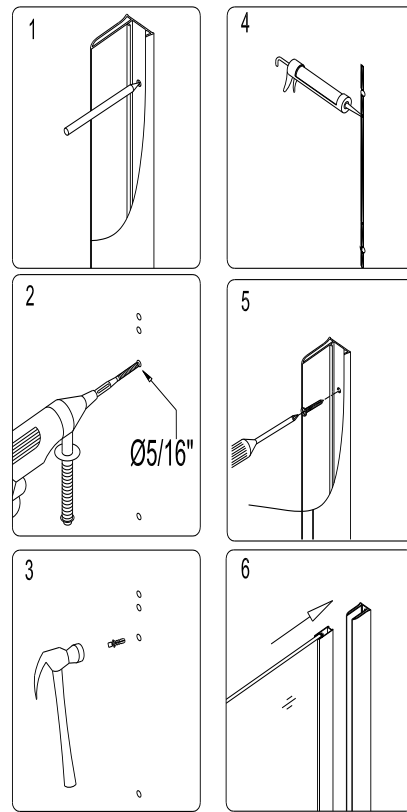

fig. 10
9. Draw a line along the inner edge of the wall profile on the wall. Remove the **Stationary glass** and the **Glass profile** assembly from the **Wall profile**; put the **Wall profile** in the designated position. Use predrilled holes in the aluminum profile to mark holes for drilling. Now drill the holes in the wall and insert the **Wall anchors (13)** into the holes. Apply silicone along the full length of the **Wall profile** and secure the wall profile to the wall with **Screw ST4.2x30 (15)**. Then push the **Stationary glass** and **Glass profile** assembly into the **Wall profile**. See fig. 10 for details.